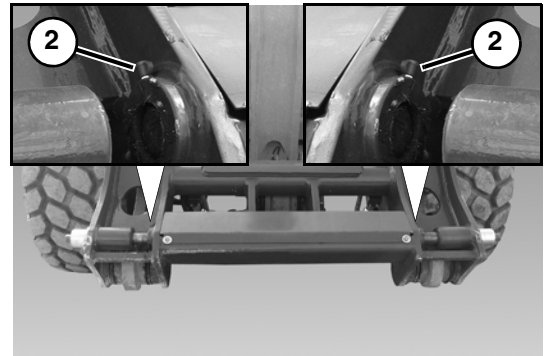

Figure 4
6. Lubricate the fittings (2, Figure 4) (both sides) every 8 working hours or more if required.